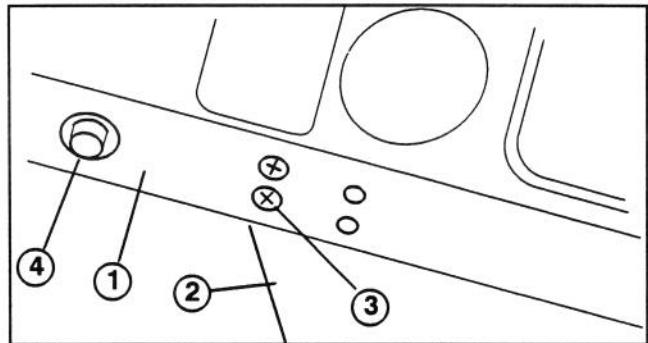

Figure 2
3. Locate (2) 1/4-20 x 5/8" lg. button head capscrews and nuts securing dash panel to R.H. pedal support (Right of horn button) (Fig. 2).